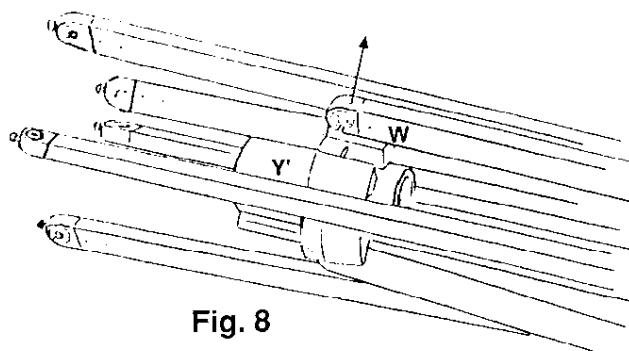

Fig. 8
2. Release the rib to be changed (W) from the housing (Y') pulling forcefully upwards (fig.8).